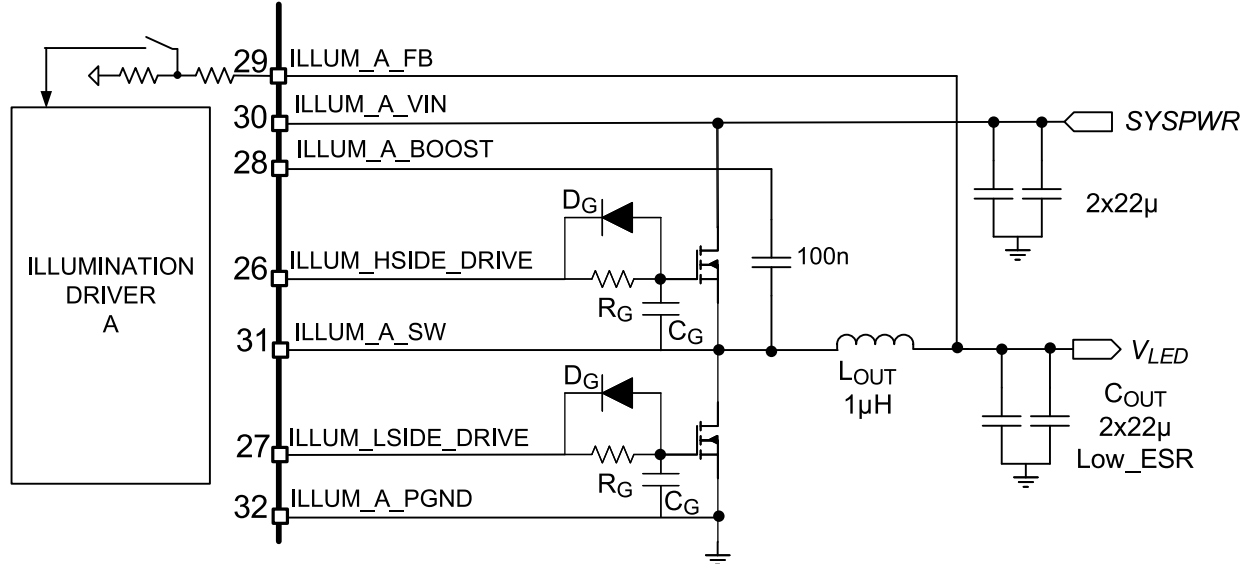
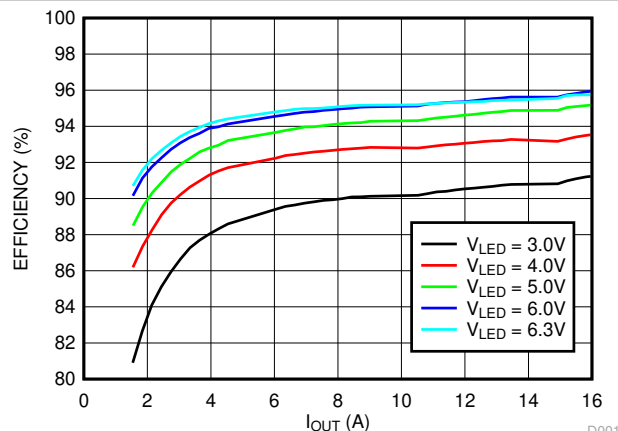

Figure 6-4. Typical Illumination Driver Configuration
Figure 6-10. Illumination Driver Plus Power FETs Efficiency ($V_{ILLUM_A_IN} = 12V$)
The illumination driver of the DLPA3085 is a buck controller for driving two external low-ohmic N-channel FETs (Figure 6-4). The theory of operation of a buck converter is explained in the application note *Understanding Buck Power Stages in Switchmode Power Supplies* (SLVA057). For proper operation, the selection of the external components is very important, especially the inductor L_{OUT} and the output capacitor C_{OUT} . For best efficiency and ripple performance, an inductor and capacitor should be chosen with low equivalent series resistance (ESR). Set the voltage rating of the capacitor equal or greater than two times of the applied voltage across the capacitor in the application.
Figure 6-10 shows an overview of the efficiency of the illumination driver plus power FETs for an input voltage of 12V. The external components (Figure 6-4): high-side FET (L) CDS17506Q5A, low-side FET (M) CDS17501Q5A, $L_{OUT} = 2 \times 2.2\mu H$ parallel, $C_{OUT} = 88\mu F$. The efficiency is shown for several output voltage levels (V_{LED}) versus output current.